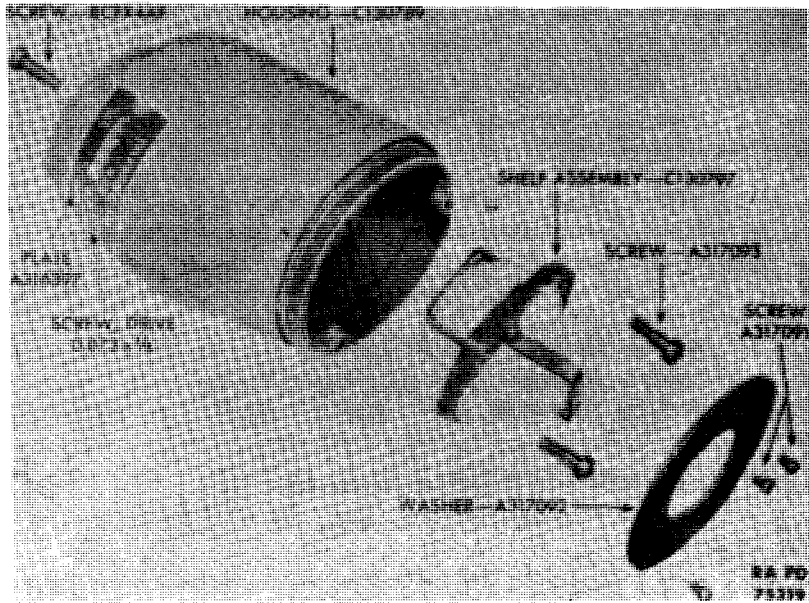

Figure 17-Observation Telescope M49-Prism Housing Assembly C130788 Partially Disassembled
(2) Remove the washer A317092 (fig. 17) that serves as a diaphragm, by first removing the three screws A317091 that hold it.
(3) Remove screws A317093 and BCFX4AF that hold the prism shelf assembly C130797 (fig. 17) and remove the shelf assembly.